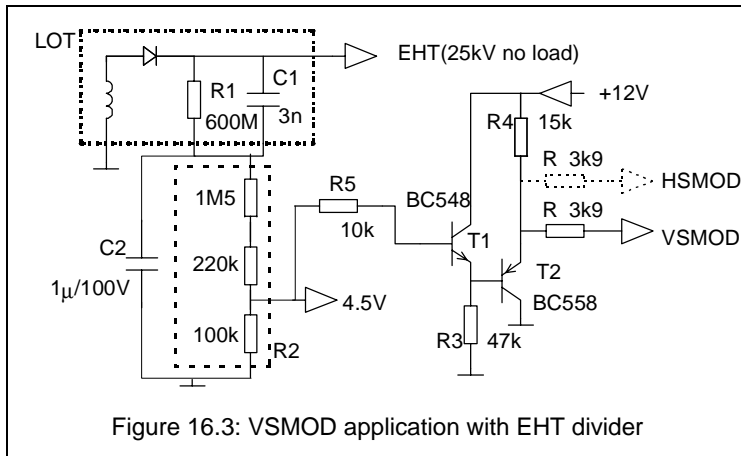

Figure 16.3: VSMOD application with EHT divider
- 1- A parallel capacitor and bleeder are present in the EHT transformer. With a divider and buffer, EHT information can be transferred to VSMOD. This is the best solution, because the signal does not lag in phase. The application at VSMOD can be implemented as shown in Figure 16.3.
In both applications, tracks should be as short as possible, especially the track from resistor to VSMOD. This resistor is 'R' in Figure 16.3 and R2 in Figure 16.5. If these tracks are longer than approximately 2 cm, input filtering will be necessary in order to eliminate possible EMI problems. This is done by an input filter, shown in Figure 16.6, where R1 and C1 should be as close as possible to the input pin.